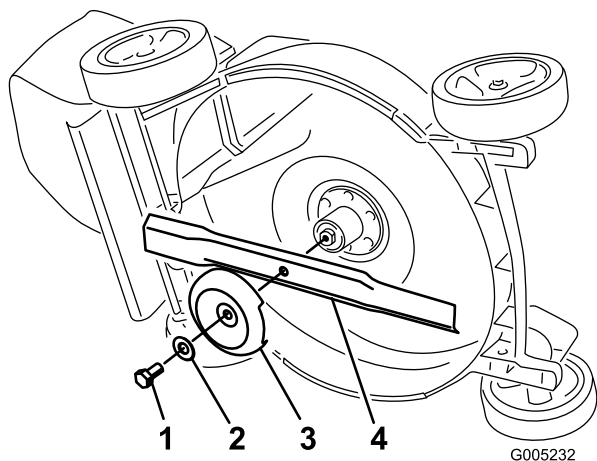

Figure 27
4. Tip the mower onto its **right** side (Figure 27).
Grasp the end of the blade using a rag or a thickly padded glove. Remove the blade bolt, washer, anti-scalp cup, and blade (Figure 27).